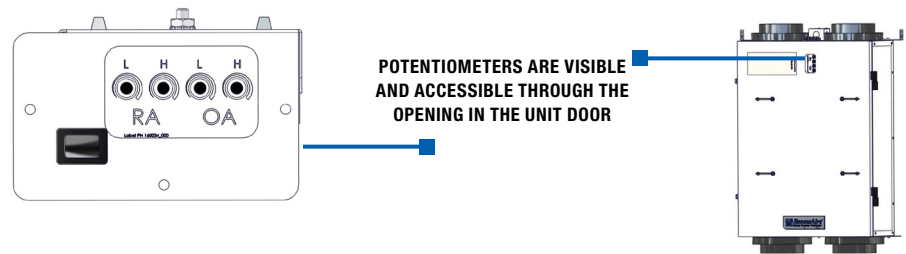

FIGURE 4.3.1 FAN SPEED CONTROL POTENTIOMETERS
- Take a differential pressure reading for the OA airstream by installing the “high” pressure side (+) of the measuring device to the OA port and the “low” pressure side (-) to the SA port. Compare the pressure drop to the chart in section 4.4.0 to obtain the CFM. Adjust the fan speed potentiometer (See figure 4.3.1) to obtain the desired CFM. Enter the CFM information in the box in section 4.4.
- Take a differential pressure reading for the RA airstream by installing the “high” pressure side (+) of the measuring device to the RA port and the “low” pressure side (-) to the EA port. Compare the pressure drop to the chart in section 4.4.0 to obtain the CFM. Adjust the fan speed potentiometer (See figure 4.3.1) to obtain the desired CFM. Enter the CFM information in the box in section 4.4.
- After adjusting the potentiometers, take additional readings as needed to verify that fan speed settings are correct. See Figure 4.3.1.